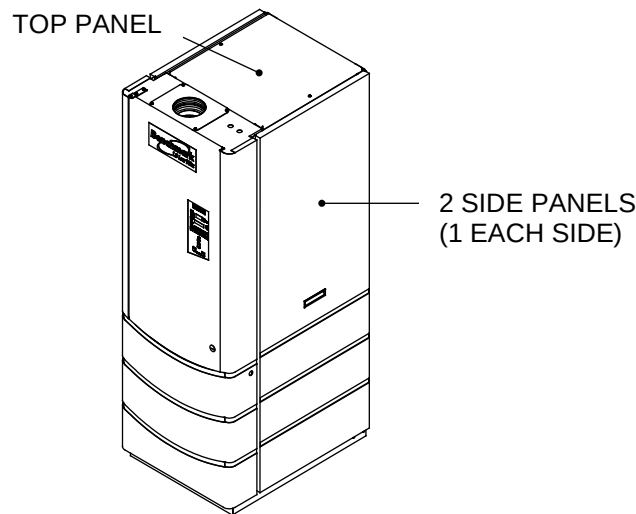

Figure 1: Benchmark 2.0 Low NOx (LN) Boiler
5. Refer to Figure 1 and remove the top and side panels of the unit.